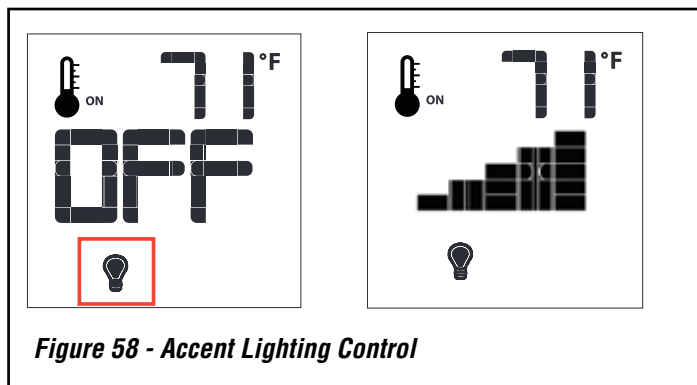

Figure 58 - Accent Lighting Control
The fireplace is equipped with warm white colored halogen accent lights. The lights can be controlled by the Proflame system. Light intensity can be adjusted through six (6) levels of brightness. To activate this function use the Mode Key to index the Light icon, see **Figure 58**.
1. Pressing the Up Arrow Key will turn the lights on. Each time you press the Down Arrow Key, the lights intensity will reduce by one step (**Figure 58**).